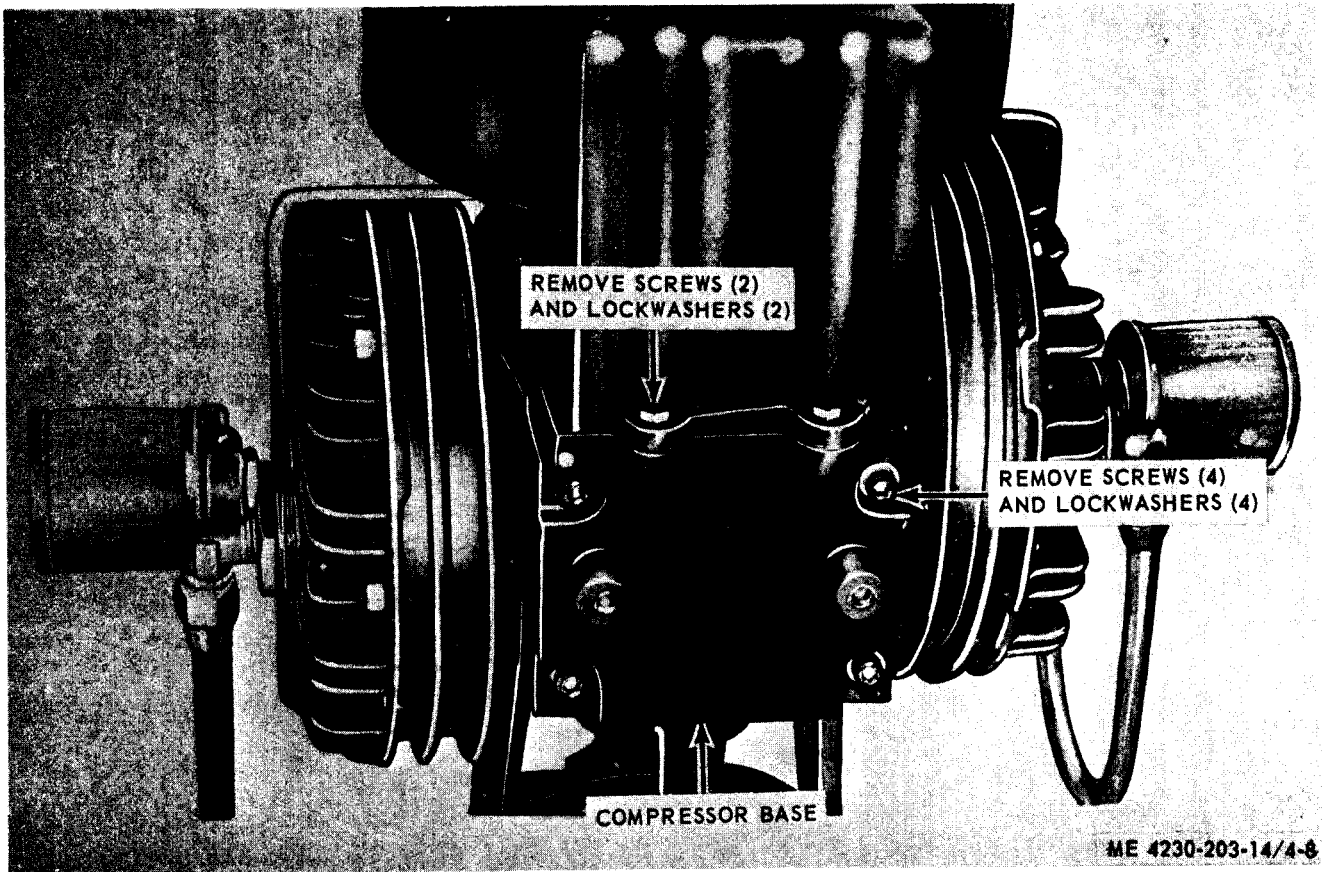

Figure 5-8. Air compressor base, removal and installation.
- (1) Remove the air compressor (para 4-39).
- (2) Refer to figure 5-8 and remove the air compressor base.